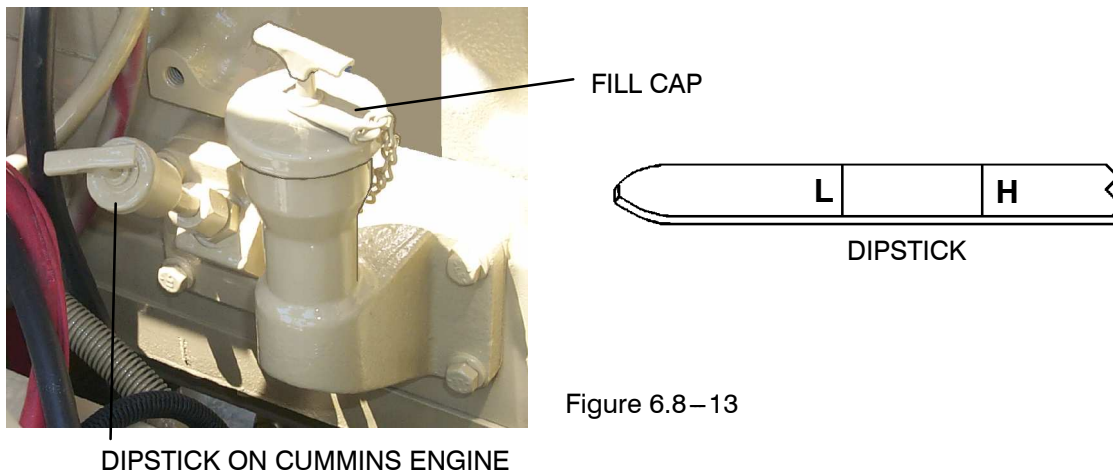

Figure 6.8–13
8. After oil has completely drained and the filter(s) have been replaced, clean the drain plug (see figure 6.8–9) and install securely.